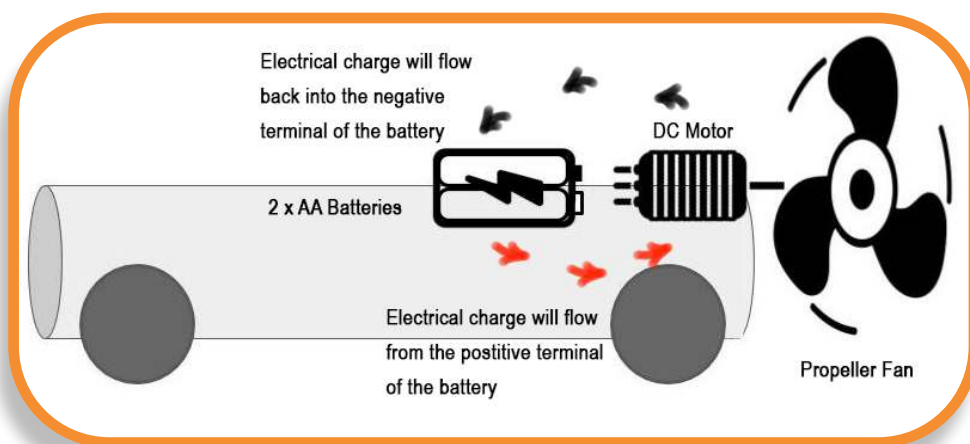

Fig. 2 - STEAM Racer circuit structure
**Optional:** If you have a switch, you can also include it in your circuit, to make it easier to turn on/off. To include a switch, simply cut the black wire in the centre and twist each loose end of the cut wire around the metal loops of the switch. Have a look at Fig. 2 to see how a switch will look in your circuit.